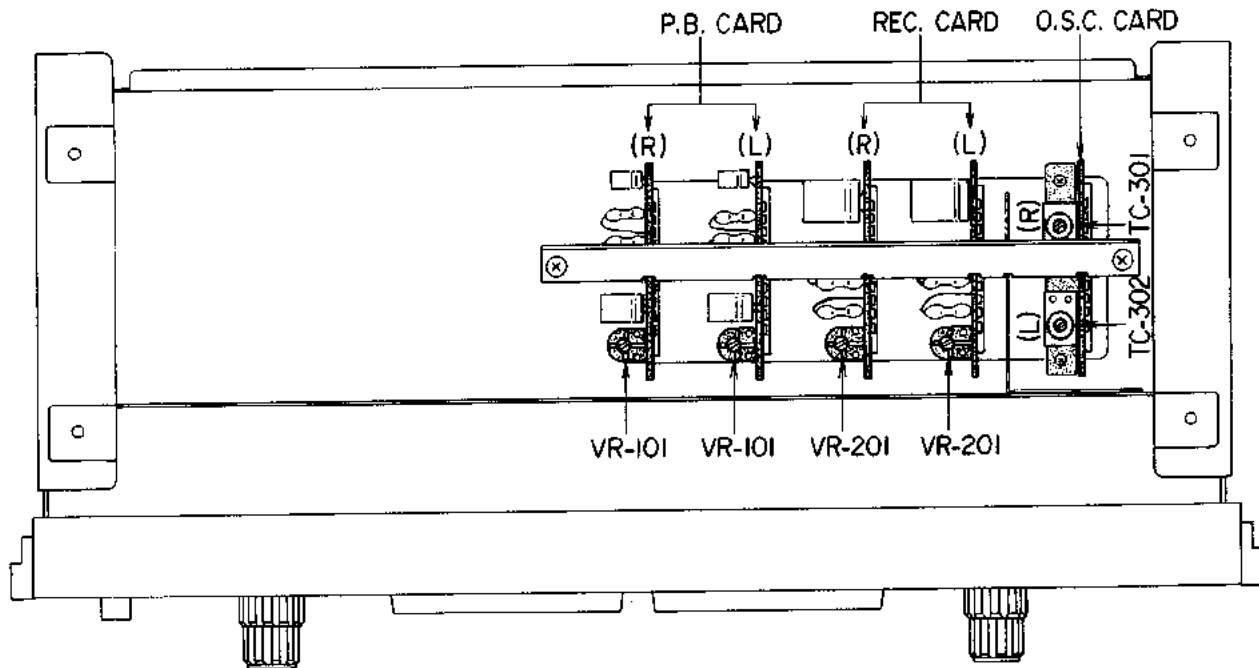

Fig. 6-1
- d) Adjust the VR 101 (semi-fixed resistor 20 K-B, Fig. 6-1) of the pre-amplifier so that Line Output Voltage indicates 1.228 V (+4 dbm).